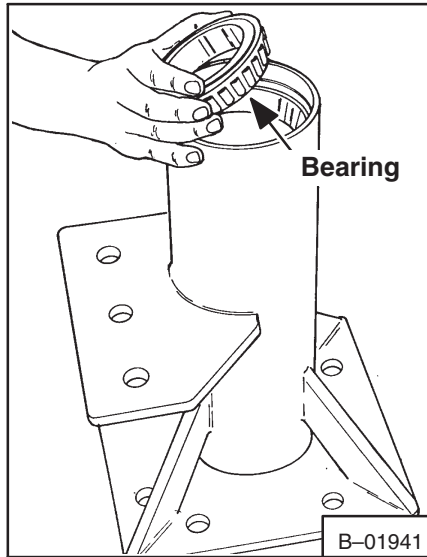

Fig. 4-23 Installing The Axle Bearings
5. Install new races, outer bearing and seal in housing (Fig. 4-23, 4-24 & 4-25).